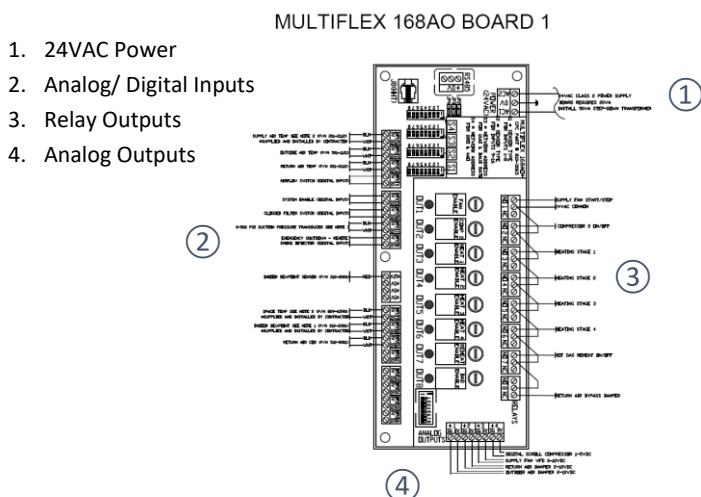
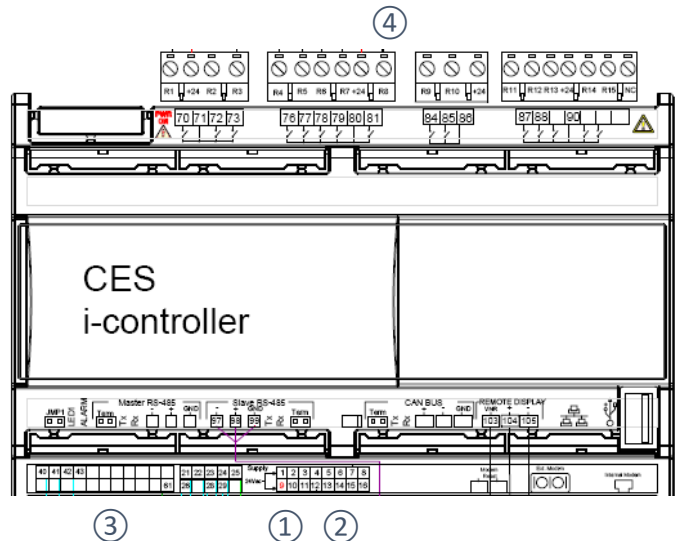

Figure 5. Emerson Multi-Flex 168AO board
Figure 7. Flō i-Controller
The MF168AO board has four analog outputs. Each output will have a white signal wire connected to SG point and black common wire connected to the 0V point. See Figure 5. I-Controller point 21 – 30 are the analog outputs for devices requiring an analog 0-10V run signal. See Figure 7.
MF168AO has eight relay output terminals. See Figure 5. Each output terminal has a normally open (NO) signal and a +24VAC common (C) wire connection.
After the +24VAC common connections are terminated, using Table 5, transfer each control signal point to the corresponding i-Controller output point located on pins 70 - 93. See Figure 7. Transfer one signal wire at a time from the old controller to the new point location on the i-Controller.